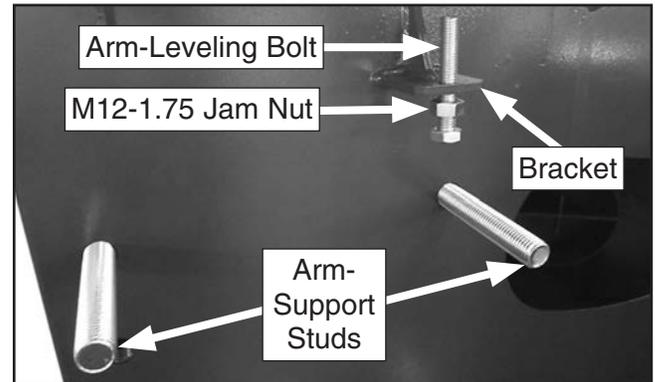
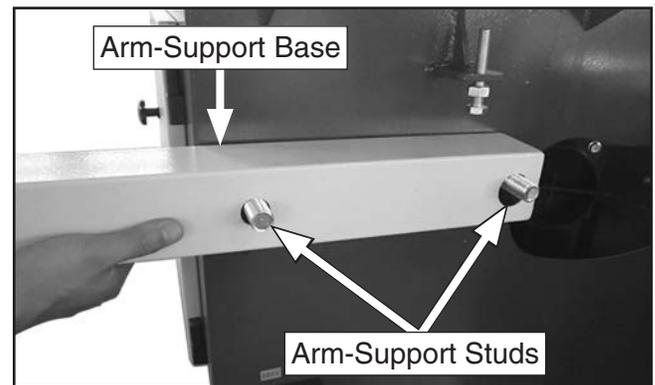

Figure 51. Arm-support studs installed in body and arm-leveling bolt installed in bracket.
Figure 52. Installing arm-support base.
58. Thread (1) M12-1.75 x 70 arm-leveling bolt with M12-1.75 jam nut into bracket connected to rear of machine body, as shown in **Figure 51**.
59. Remove hex nuts from pre-installed arm-support studs (see **Figure 51**), and install support-arm base onto arm-support studs, as shown in **Figure 52**.